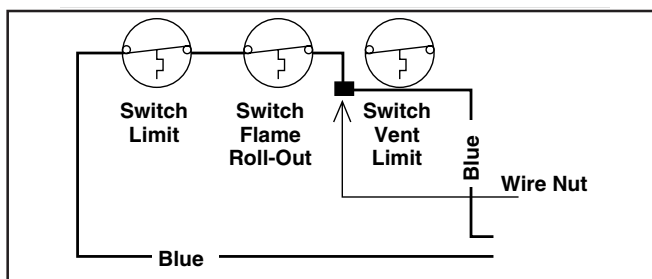

Figure 14. Limit Circuit Wiring
- Bypass the vent switch by removing both wires from the vent switch and attaching them to the wire nut. (See Figure 14.)
1. The termination tee must be 12 inches above snow level or grade level which ever is higher. See Figure 14 for alternate method to achieve 12" above snow level.